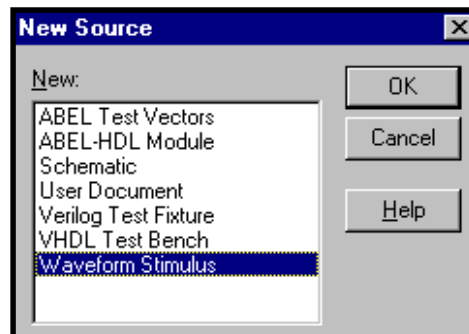

Figure 4-1. New Source Dialog Box
- Select the **Source** ⇒ **New** command. The New Source dialog box (Figure 4-1) pops up.